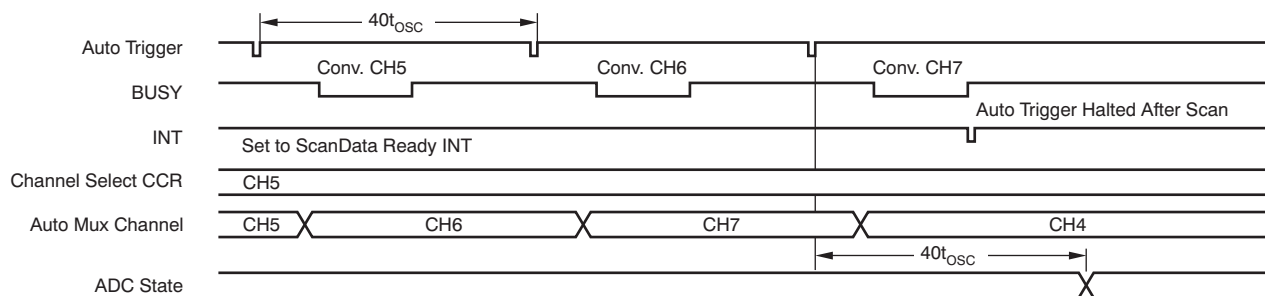

Figure 23. Mode 5 Timing
Single-Scan Mode (Mode 5) (1)	ADC SCR, bit D[1] = '1'; FIFO buffer enabled (as shown in <a href="#">Figure 23</a> )
ADC SCR, bit D[1] = '0'; FIFO buffer disabled (as shown in <a href="#">Figure 23</a> )